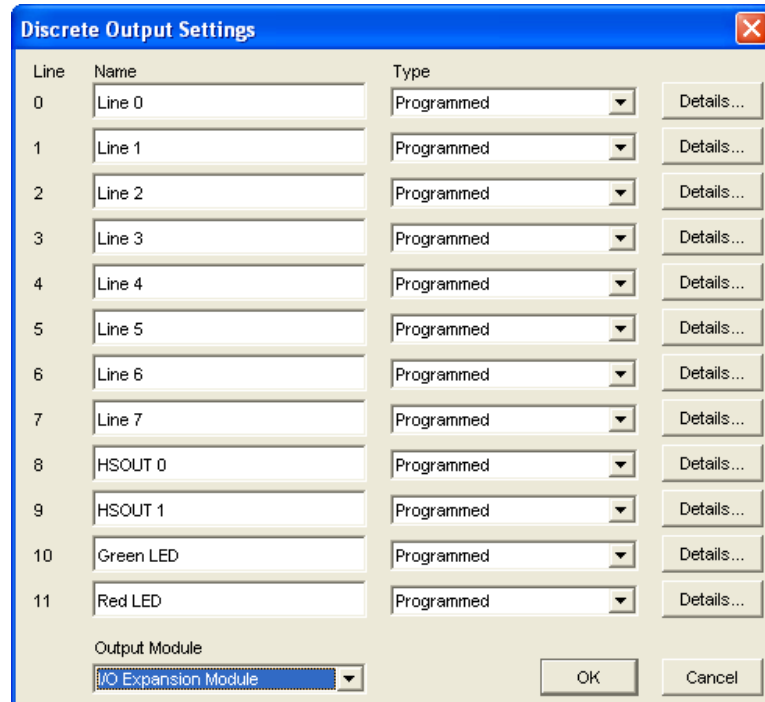

Figure 2-6: Discrete Output Settings
4. Open the **Output Module** drop-down list at the bottom left of the window (Figure 2-6) and select **I/O Expansion Module**. The Discrete Output window will automatically reconfigure to correspond to the I/O Expansion Module, as shown in Figure 2-6.